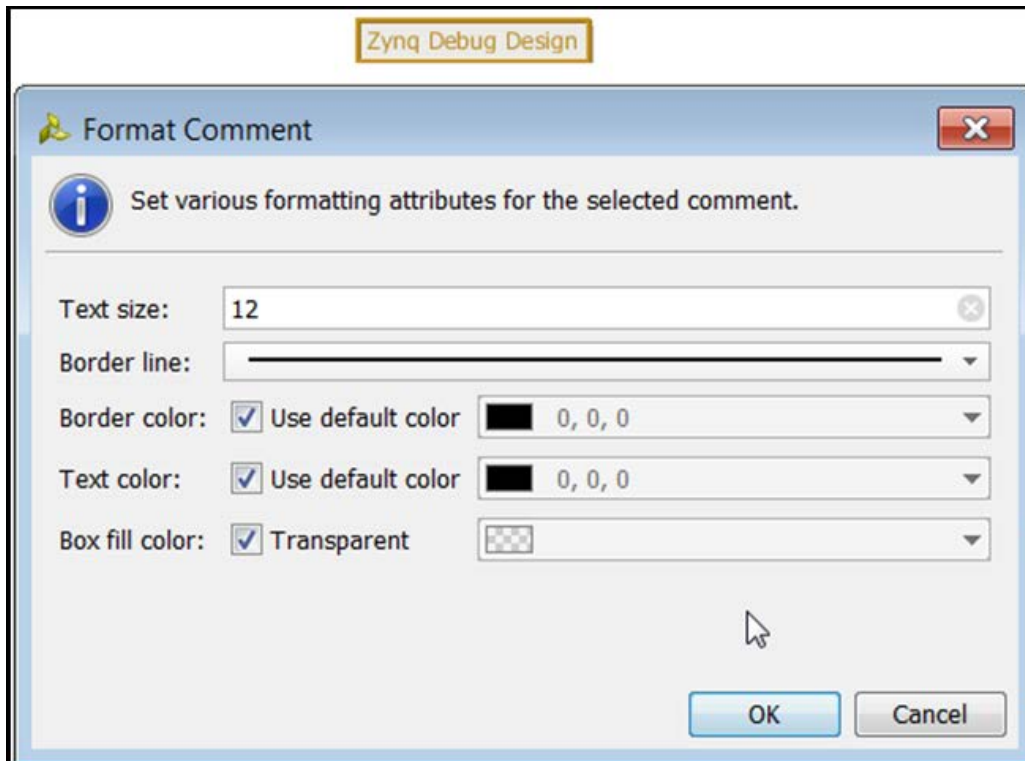

Figure 23: Comment Format Dialog Box
3. Add a title to your design. Then right-click and format the comment (Figure 23).